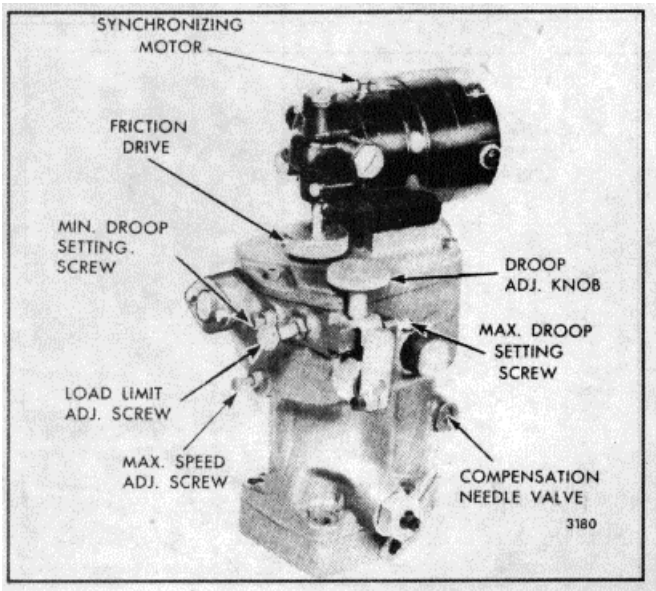

Fig. 10. - Typical Synchronizing Motor Mounting
Some hydraulic governors are equipped with a reversible electric synchronizing motor mounted on the governor cover (Fig. 10).
1. Open the valve (Fig. 10) two or three turns and allow the engine to "hunt" or "surge" for about one-half minute to bleed any air which may be trapped in the governor oil passages.